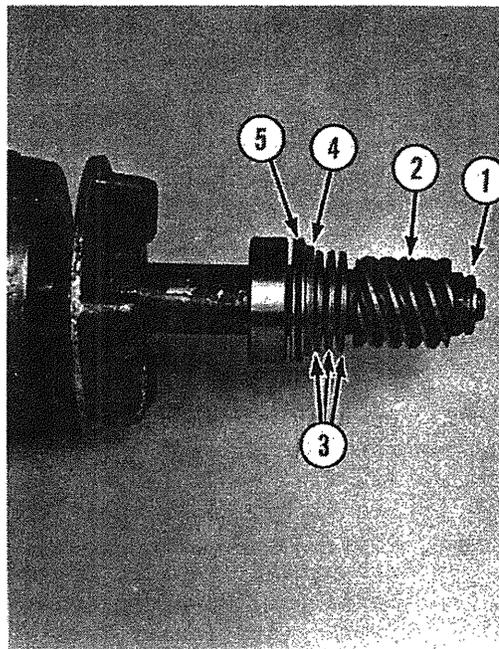

Fig. 8-6
- G. If a new front bearing is needed, the worm must be removed first. Remove stop nut (1, Fig. 8-6), worm (2, Fig. 8-6), six Belleville washers (3, Fig. 8-6), one washer (4, Fig. 8-6) and grease deflector (5, Fig. 8-6).